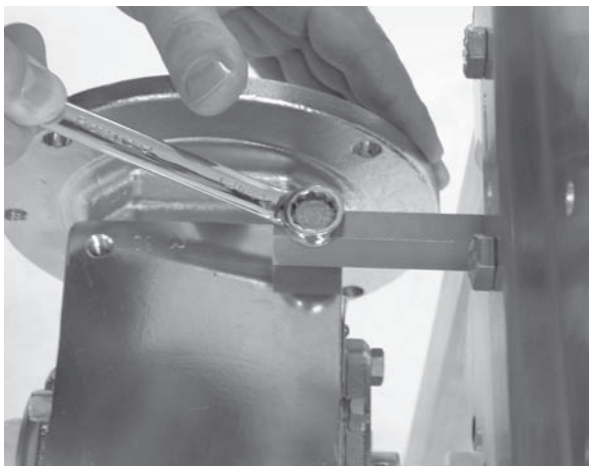

Figure 68
4. Unbolt the drive assembly and slide it off the bearing spindle (**Figure 68**).